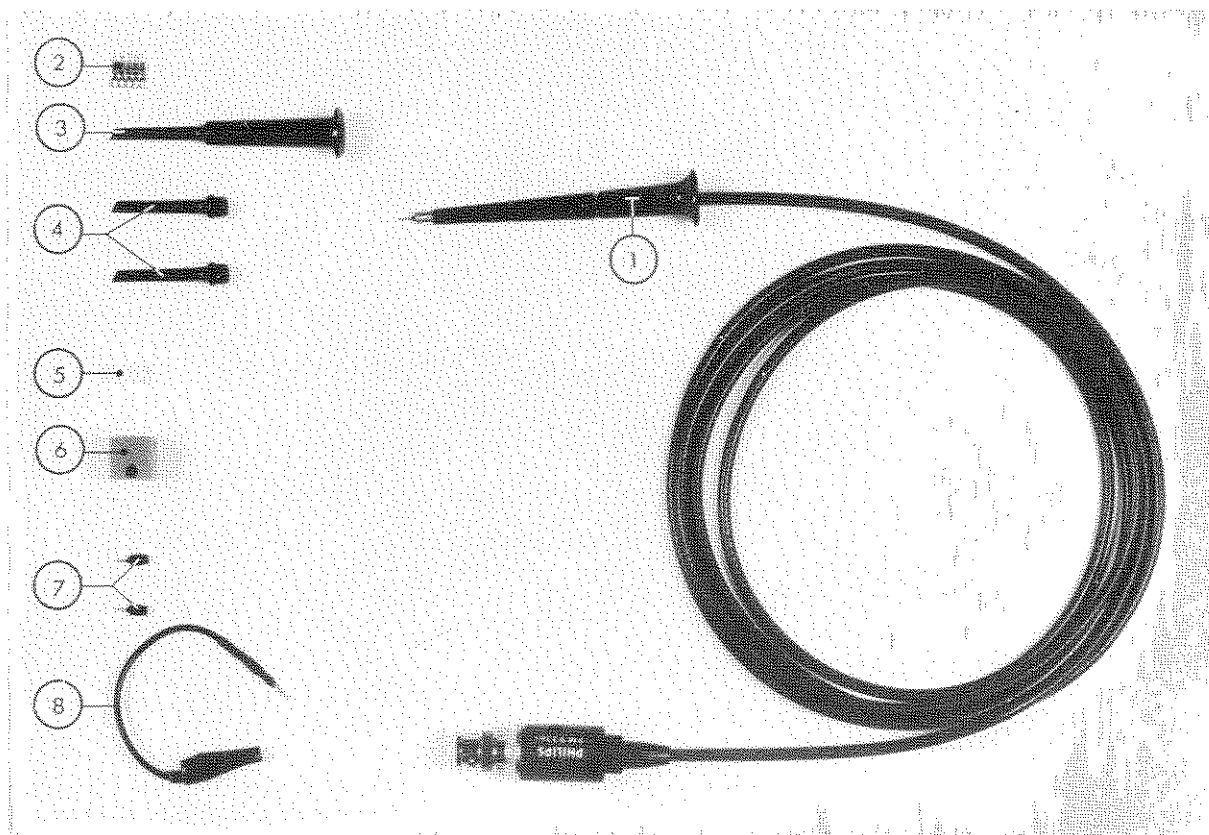

Fig. 3.28. Attenuator probe set PM 9336 (PM 9336L)
1 probe assembly	Fig. 3.28 item 1
5 soldering terminals	Fig. 3.28 item 2
1 test hook	Fig. 3.28 item 3
2 spare test hook sleeves	Fig. 3.28 item 4
1 protective cap	Fig. 3.28 item 5
1 probe holder	Fig. 3.28 item 6
2 probe tips	Fig. 3.28 item 7
1 earthing cord	Fig. 3.28 item 8